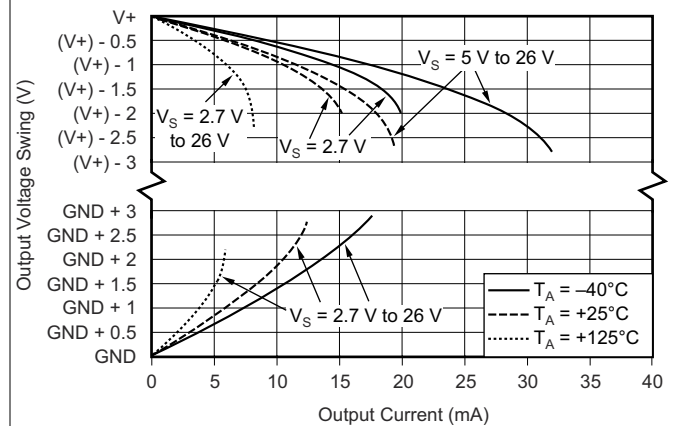

Figure 5-10. Output Voltage Swing vs Output Current
(1) RTI = referred to input.
(2) See Figure 5-10 in the Section 5.6 section.
(3) Not production tested.